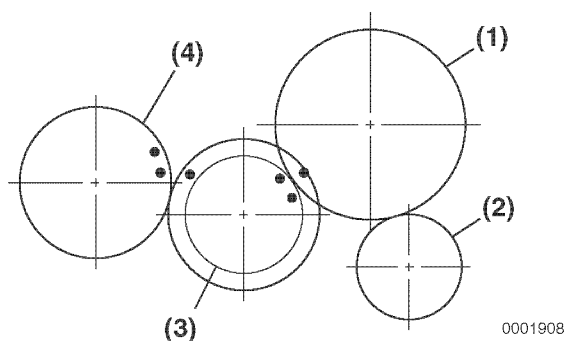

Figure 6-65
Check the cam gear (**Figure 6-65, (1)**), the oil pump / governor drive gear (**Figure 6-65, (2)**), the crankshaft gear (**Figure 6-65, (3)**) and the balancer gear (**Figure 6-65, (4)**) for damage or wear. Replace any that are damaged or worn.